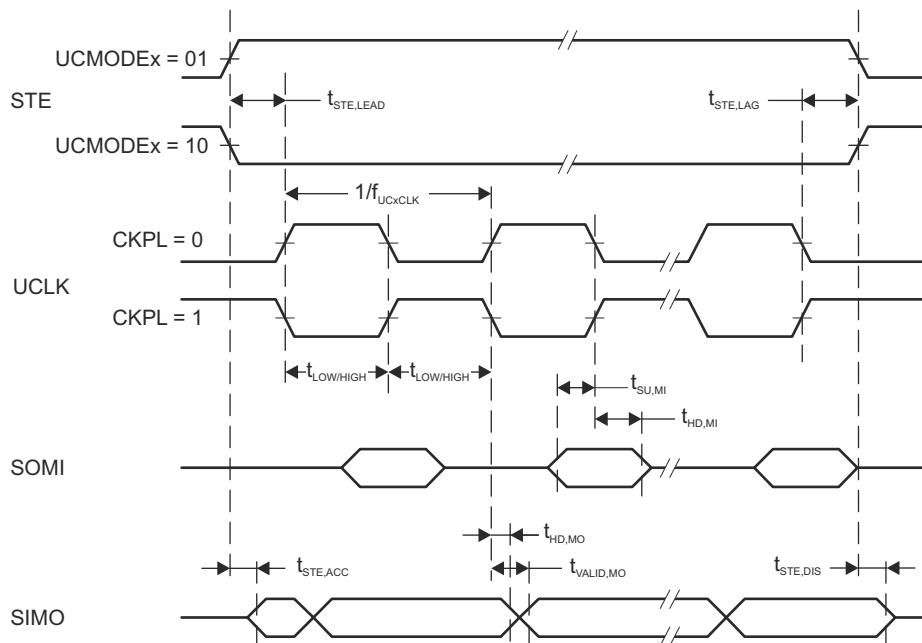
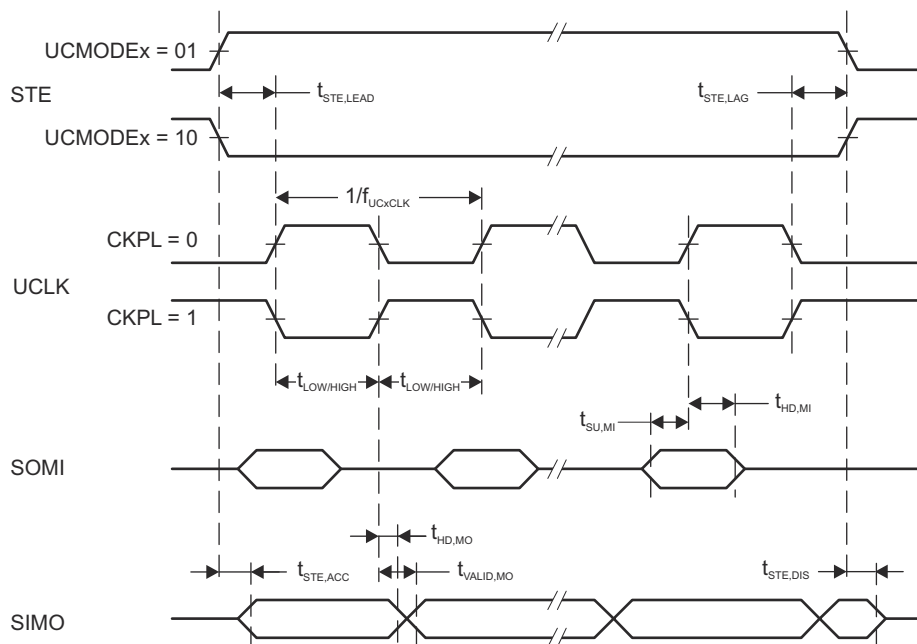

图 8-13. SPI Master Mode, CKPH = 0
图 8-14. SPI Master Mode, CKPH = 1
- (2) Specifies the time to drive the next valid data to the SIMO output after the output changing UCLK clock edge. See the timing diagrams in Figure 8-13 and Figure 8-14.
- (3) Specifies how long data on the SIMO output is valid after the output changing UCLK clock edge. Negative values indicate that the data on the SIMO output can become invalid before the output changing clock edge observed on UCLK. See the timing diagrams in Figure 8-13 and Figure 8-14.